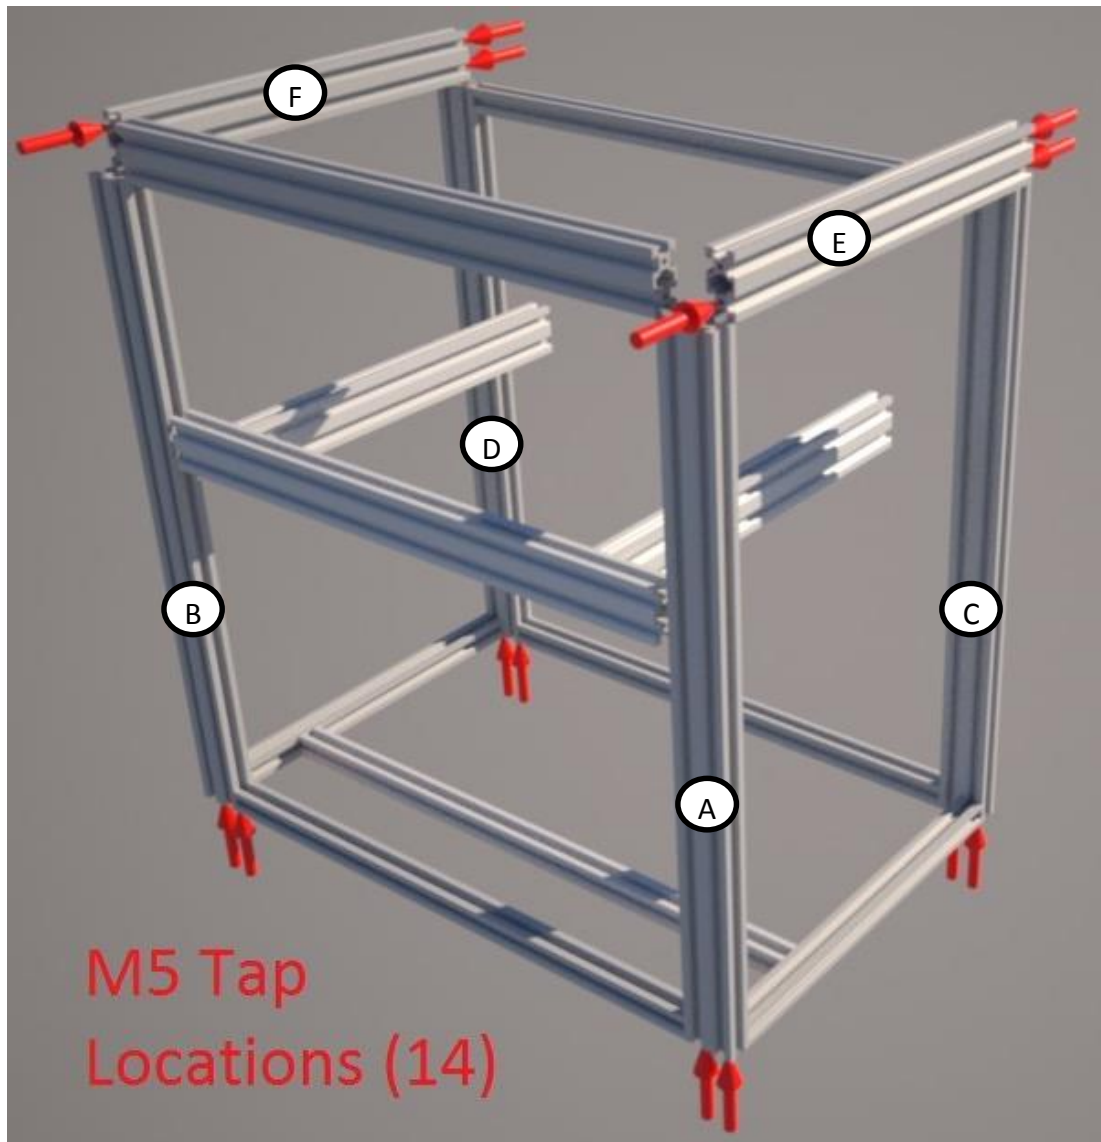

Figure 3: M5 Thread Tap Locations
Figure 3 shows which locations on the V-slot rails need to be M5 thread tapped. V-slot ends are predrilled correctly to the size needed for M5 threads. Use oil on the thread tap, repeatedly reverse the tap to avoid jamming and breaking. Practice thread tapping on some of the leftover scrap V-slot pieces. Here is an example thread tapping video.
- Attach remaining bolts which thread into tapped ends indicated in Figure 3 (14 total).